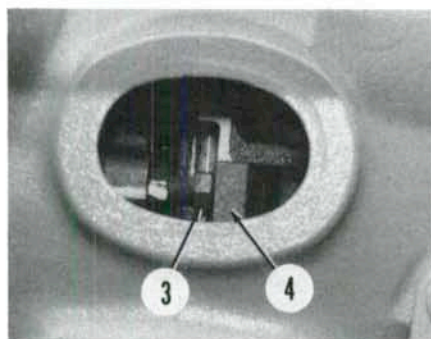

Fig. 167—On models with dual plate clutch, pto clutch release bolts (3) can be adjusted through opening in clutch housing. Refer to text.
On models equipped with dual clutch, adjustment of pto clutch release bolts can be checked after removing rubber cover from side of clutch housing. Clearance between head of bolts (3—Fig. 167) and pto pressure plate (4) should be between 1.6-1.8 mm (0.063-0.070 inch) for 1500, 1700, and 1900 models or 0.9-1.0 mm (0.035-0.039 inch) for 1310, 1510, 1710, 1910 and 2110 models.